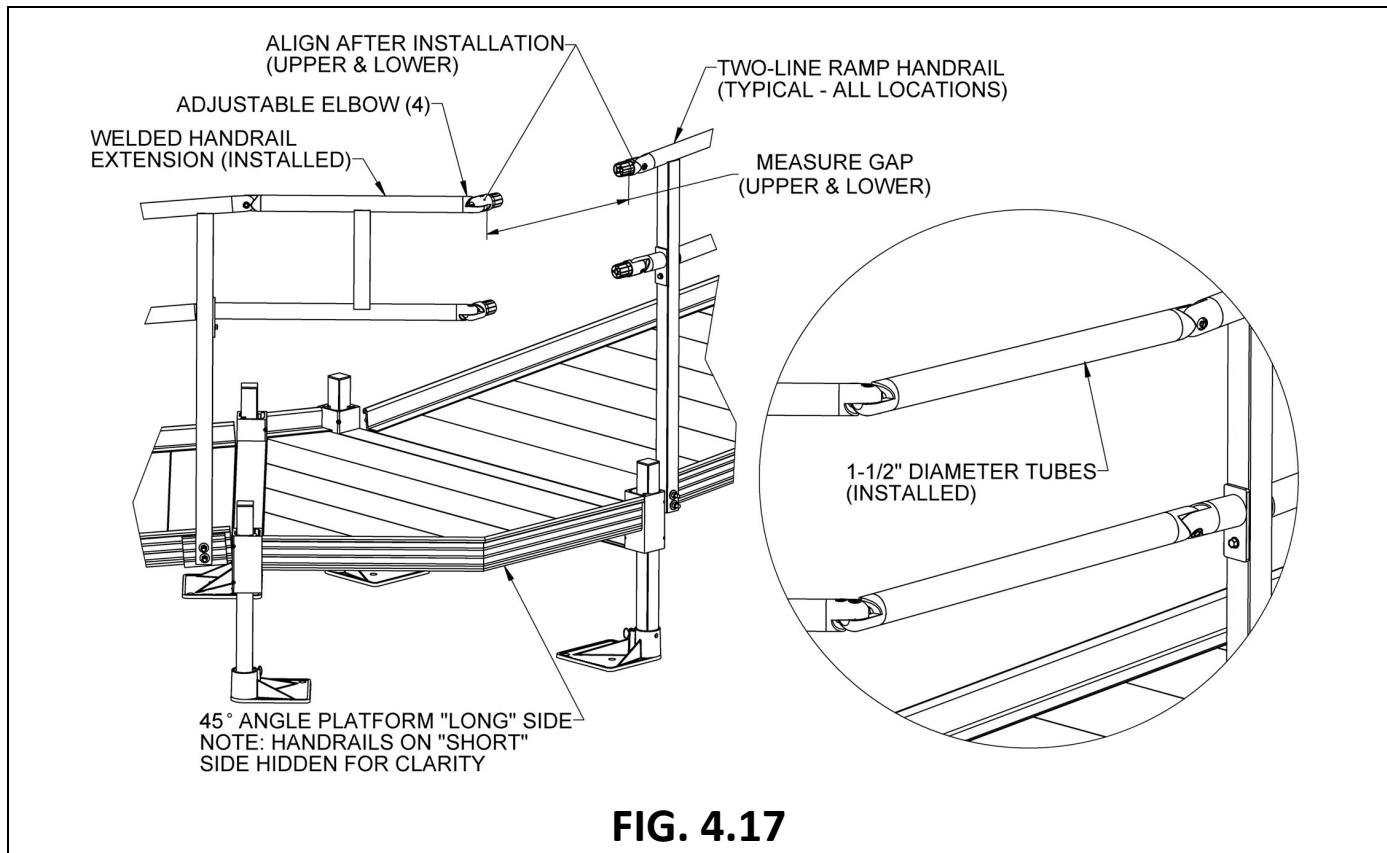

FIG. 4.17
- 4.6.12. Insert adjustable elbows into the open ramp handrail, the Bolt-On Stub Rail, and the open ends of the welded handrail extension (FIG. 4.17).
- 4.6.14. FIG. 4.17 shows the completed connection.